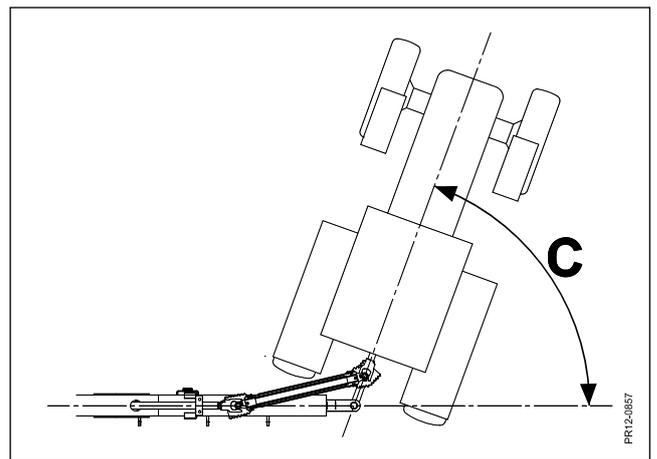

Fig. 2-10
- Fig. 2-10** In certain cases it is possible to increase the turning angle "C" by shortening the PTO drive shaft. The PTO drive shaft must only be shortened if the overlapping is more than 200 mm when driving straightforward with the machine in working position.